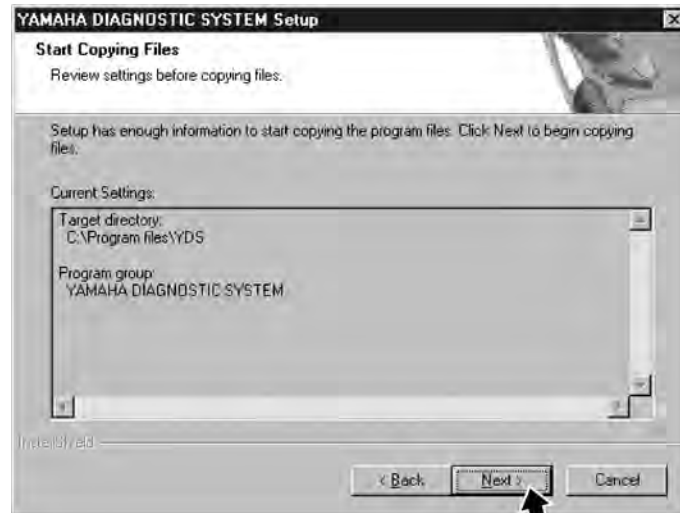

Fig. 6
- To quit the installation, click the **Cancel** button. The following dialog box appears. (See fig. 6.)